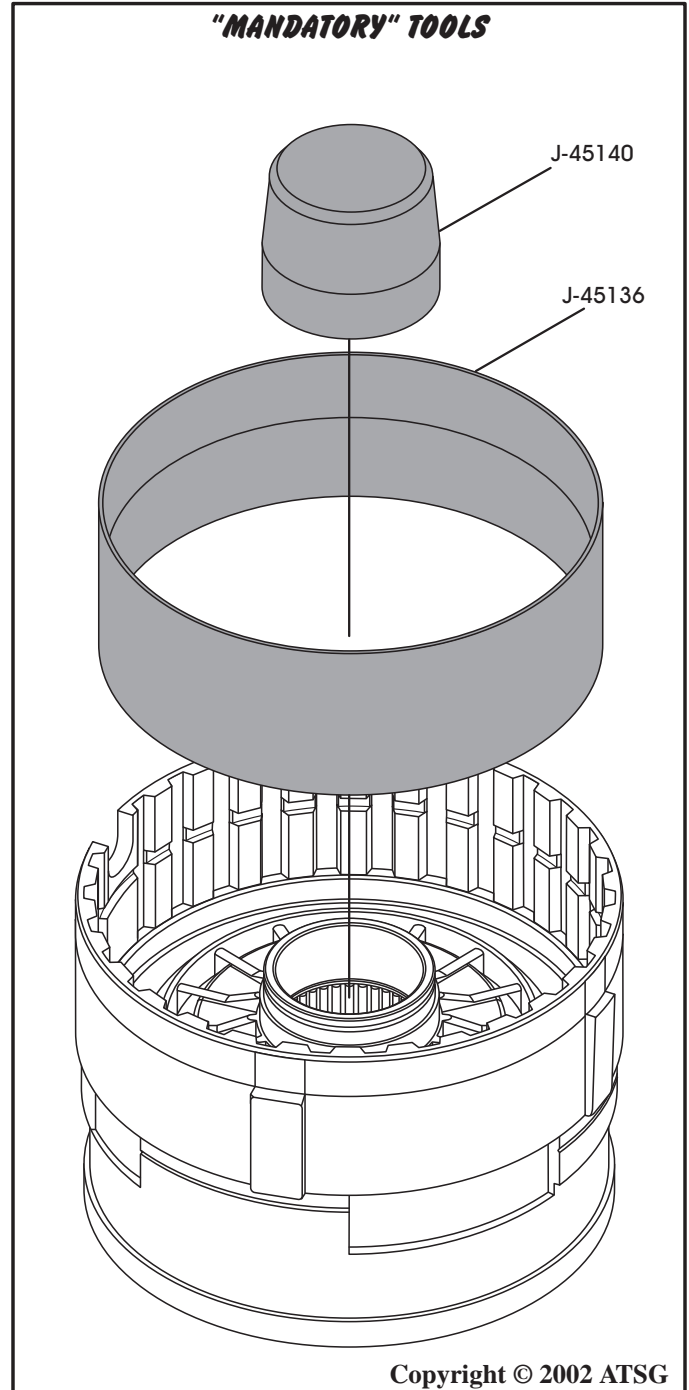

Figure 133
5. Install J-45136 and J-45140 lip seal protectors, as shown in Figure 133, on low/reverse side.